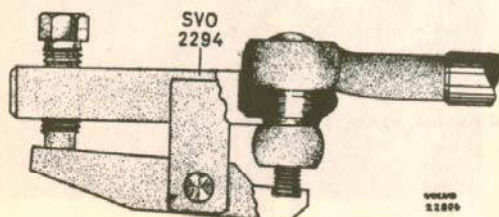
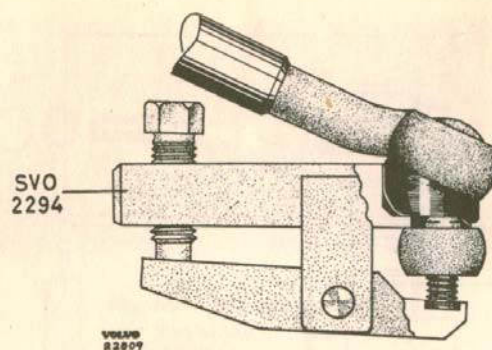

Fig. 6-31. Removing the ball joint
Fig. 6-32. Removing the steering rod
The steering rod ball joints are made integral with the steering rod so that the complete steering rod must be replaced. When removing, first take out the split pins and unscrew the castle nuts. Then place tool SVO 2294 on the ball joint as shown in Fig. 6-31. Press in the tool properly and ensure that the thread on the ball joint enters the countersink on the tool. Screw in the bolt until the ball joint slackens. If the steering rod is removed with the wheel in position, first disconnect the ball joint at the pitman arm and idler arm respectively as described above. When doing this, turn the steering rod forwards and upwards and
place the tool on the ball joint as shown in Fig. 6-32. The tie-rod ball joints can be replaced individually. When replacing, first disconnect the ball joint from the pitman arm and idler arm respectively as described above (Fig. 6-31). Then slacken the locknut and screw out the ball joint. The new ball joint should be screwed in an equal number of turns to facilitate adjusting the toe-in. Lock the ball joint to the rod. When replacing the ball joint rubber covers, these should be filled with grease.
2. Screw back the bolt on puller SVO 2294 and place the tool on the tie-rod ball joint at the idler arm as shown in Fig. 6-31. Press in the tool properly and ensure that the thread on the ball joint enters the countersink on the tool. Screw in the bolt until the ball joint releases from the idler arm.